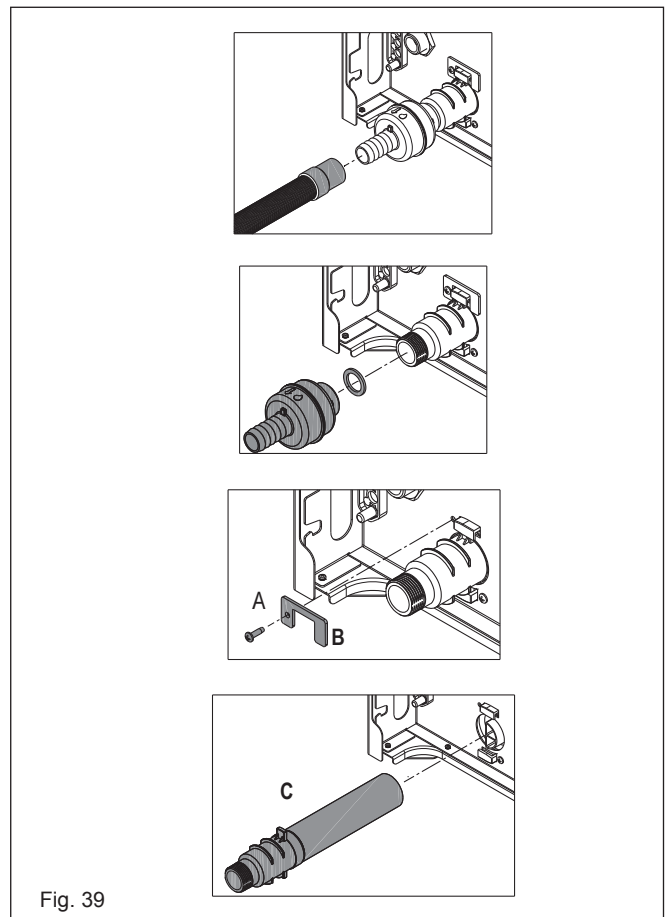

Fig. 39
7.26 REMOVING THE SIPHON (FIG. 39)